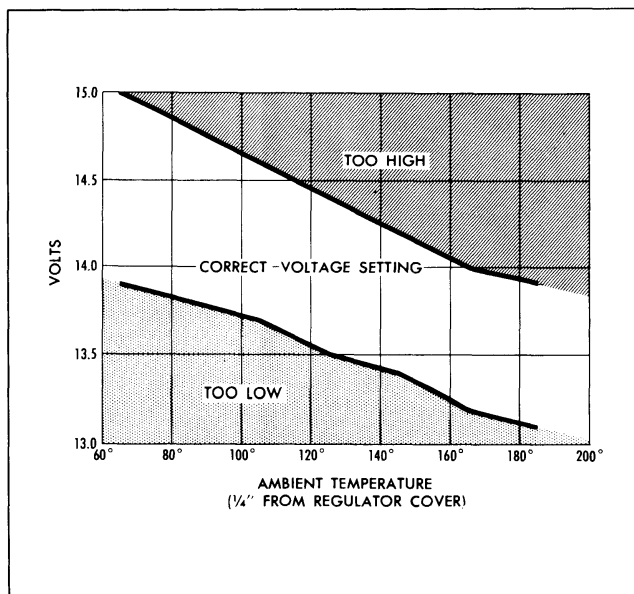

Fig. 11-31 Temperature Correction Chart
The voltage at which the regulator operates varies with changes in regulator ambient temperatures (Fig. 11-31). The ambient temperature is the temperature of the air measured $\frac{1}{4}$ of an inch from the regulator cover.
d. Bring engine speed up to 2500 rpm (approximately 6000 alternator rpm) and note the voltage setting (refer to Fig. 11-31). The regulator should be operating on the upper or shorting contacts. If it will not operate on the upper contacts, the battery is in an extreme state of discharge, and must be at least partially re-charged before proceeding. The methods of identifying upper or lower contact operation is covered in Step 9.
9. After making the voltage setting while operating on the upper set of contacts, check the voltage setting while operating on the lower set of contacts as follows: Slowly increase the resistance of the variable resistor with the engine operating at 2500 rpm (approximately 6000 alternator rpm) until the regulator begins to operate on the lower set of contacts. Then note the voltage reading, and refer to Fig. 11-31. **NOTE:** If turning the variable resistor does not cause the regulator to operate on the lower set of contacts, return variable resistor to the "no resistance" position, turn the carbon pile to slightly load the battery, and then adjust the variable resistor to cause the regulator to operate on the lower set of contacts. Usually, turning on the vehicle headlights can substitute for the carbon pile. The most desirable method for determining that the regulator is operating on the lower set of contacts
The desired voltage regulator setting is that which keeps the battery in a satisfactory state of charge without causing excessive water usage (as evidenced by water consumption exceeding one ounce per cell each 1000 miles). In order to obtain the desired setting, tailor the voltage regulator setting. To properly tailor voltage, refer to Fig. 11-31 and use a magnetic thermometer to measure regulator temperature. If magnetic thermometer is not available, a regular thermometer should be held with bulb $\frac{1}{4}$ " from regulator cover.